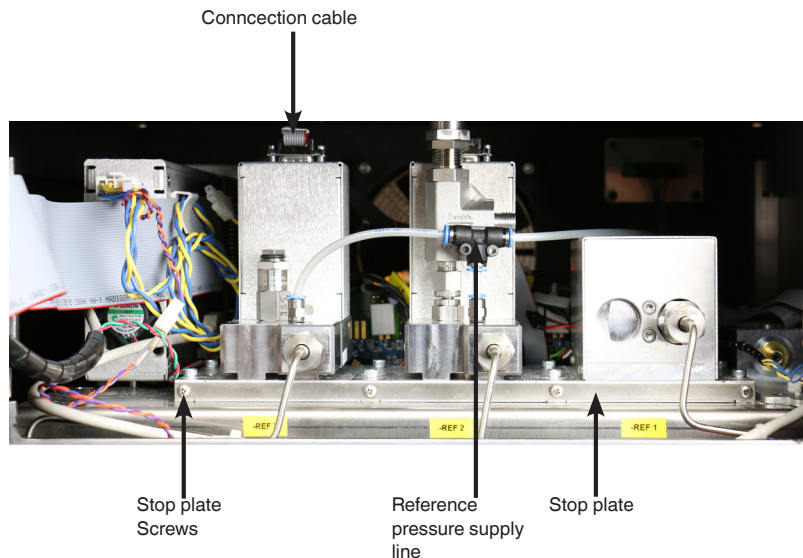

Figure 9.1.2 CPC7000 Front Panel
- Remove the stop plate by loosening the four Philips screws (Figure 9.1.2).